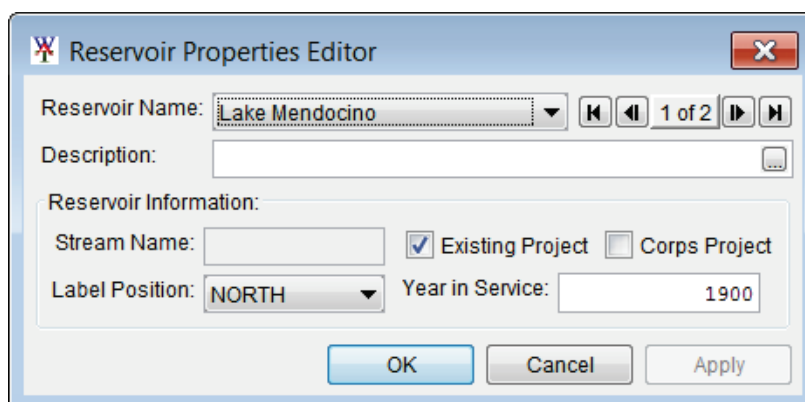

Figure G.8 Reservoir Properties Editor
2. The **Reservoir Properties Editor** will open (Figure G.8). From the **Description** box you can edit or add a description.
3. If the selected reservoir is an existing project, select the **Existing Project** check box (Figure G.8).
5. Enter the year the reservoir came on-line in the **Year in Service** box (Figure G.8). For Version 1.0 this is just informational and is not used in any computation.